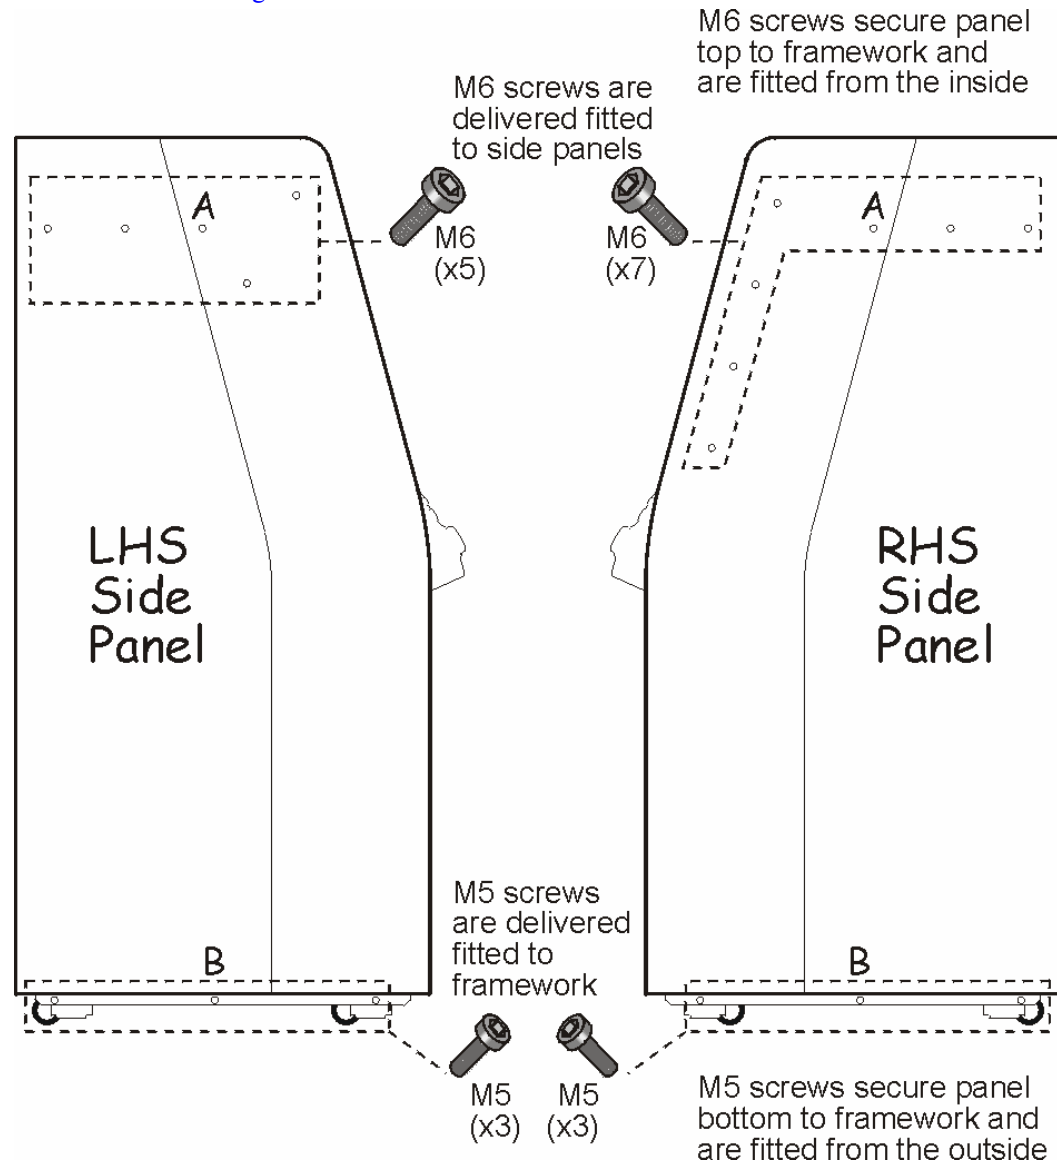

Figure 4 Fitting Side Panels
4. Place the left-hand side panel up against the side of the machine and fit the five upper M6 screws and the three lower M5 screws. Inserting the first screw in position A and the second screw in position B (as denoted in Figure 4) helps to position the door. The upper screws are inserted from the inside of the machine and fasten through pre-drilled holes into metal inserts in the panel; the lower screws fit from the outside of the machine and fasten through the metal bracket on the bottom edge of the panel into the framework. When all screws have been inserted tighten securely.
7. Place the right-hand side panel up against the side of the machine and fit the seven upper M6 screws and the three lower M5 screws. Insert screws first in positions A and B as shown in Figure 4. The upper screws are inserted from behind the upper control panel. All screws fasten in a similar manner to those on the left-hand side panel.